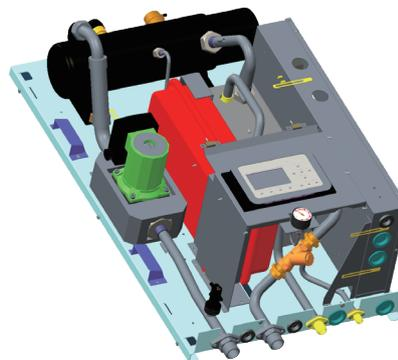

Fig. 2
<p>1) Remove the cover, front side plate and right side plate.</p> <ul style="list-style-type: none"> Loosen the two tapping screws, and remove the cover, the front side plate and right side plate. [Fig. 2] 	 <p style="text-align: center;">Fig. 1</p>  <p style="text-align: center;">Fig. 2</p>
1) Front panel assy [Fig. 2]